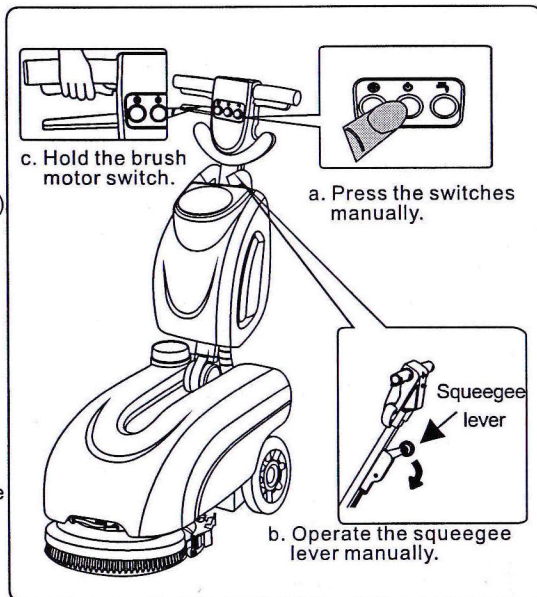

fig.8
1. Check whether the sprinkling button and the vacuum button are turn off. Then switch on the ON/OFF switch on the control panel(fig.8-a), the machine will in manual state.
2. Put down the squeegee lever to ensure that the squeegee is totally touched with the floor to work(fig.8-b)
3. Press the sprinkling button on the control panel(fig.8-a), the solenoid valve begins to work, the machine starts sprinkling water.
4. Hold on the brush motor switches on both sides(fig.8-c), the brush can clean the floor.